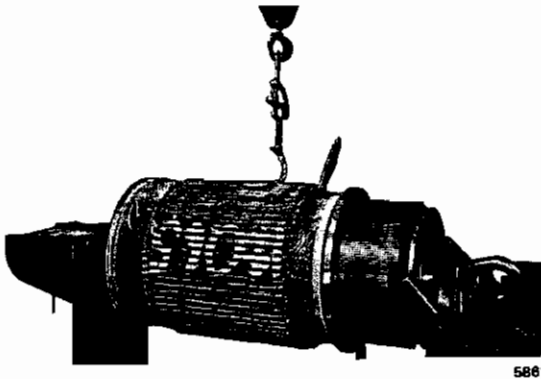

Fig. 3 - Removing Armature Coils
8. Raise the coil ends between the core and commutator. Raise one layer at a time. Fig. 3 shows a method of removing the coils without first removing the armature slot wedges. Ensure the coil being removed is a top coil and that the coil is